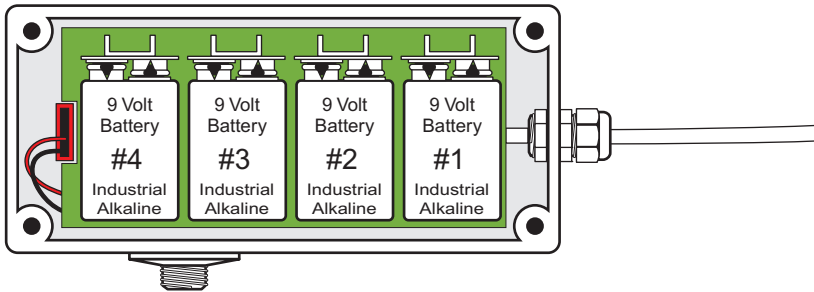

Figure 21 Modem Battery Installation
The Fiber Optic Modem option (Cat. No. 4923) uses four (4), 9-volt industrial quality alkaline batteries. The modem is shipped with the batteries but are not installed. Prior to placing the modem in service, it is necessary to remove the front cover and install all four, 9 volt alkaline batteries. (Figure 21).